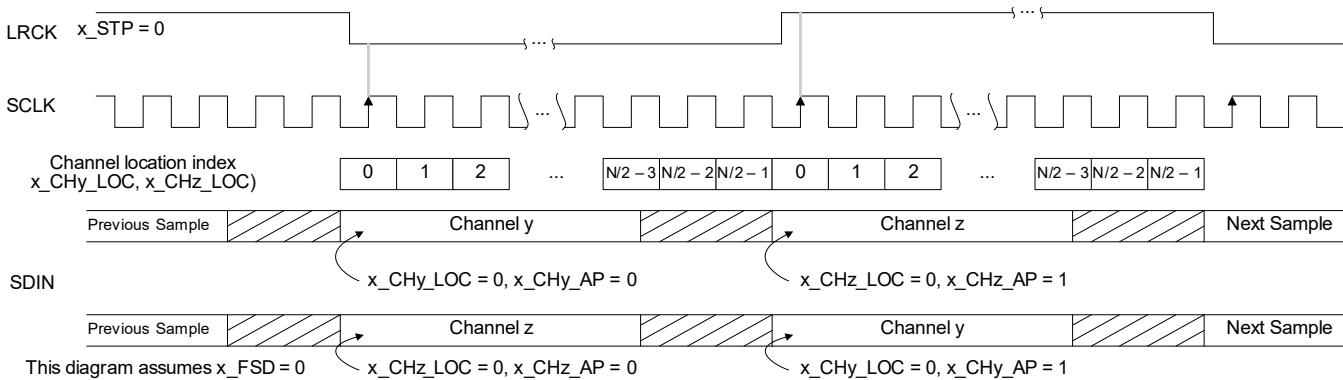

Figure 4-21. Example 50/50 Mode (ASP_STP = 0)
- If **ASP_STP = 0**, the frame begins when LRCK/FSYNC transitions from high to low. See Fig. 4-21.